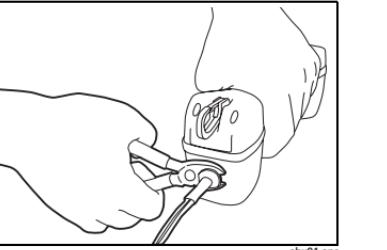

Figure 1. Removing the Strain Relief
- Pull back the rubber end of the strain relief, on the outside of the housing at the base (Figure 1), and cut the line cord strain relief with wire cutters.
Make sure the line cord strain relief lies horizontally (Figure 1). The four dots on the flat portion of the line cord should be on the top or underneath if the cord is horizontal.